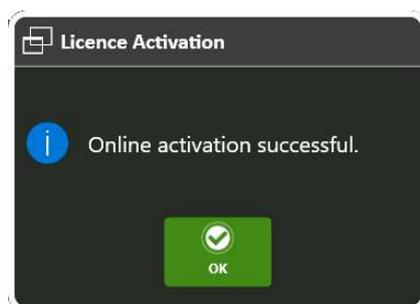

Figure 4. Successful activation dialog.
5. If a valid key has been entered, the successful *Information* dialog is displayed (Figure 4).